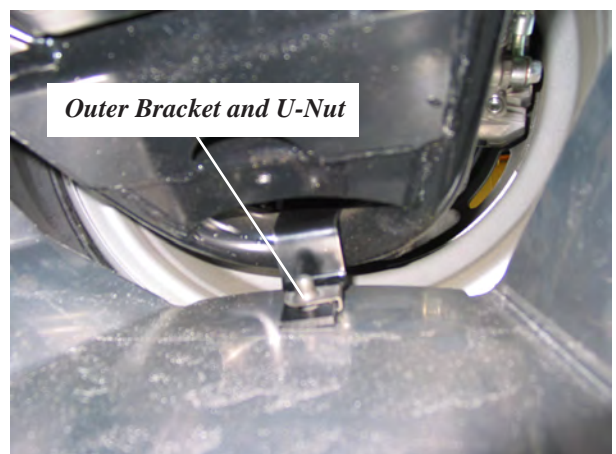

Figure 3
3. Install u-nut (B4) onto outer bracket (A5). **(Figure 2)**. Install bracket to guard (A1) as seen in Figure 3, using 5/16" bolt (B3).
4. Install guard to a-arm by placing bracket (A5) over end of a-arm and rotating guard up into position as shown. **(Figure 3)**